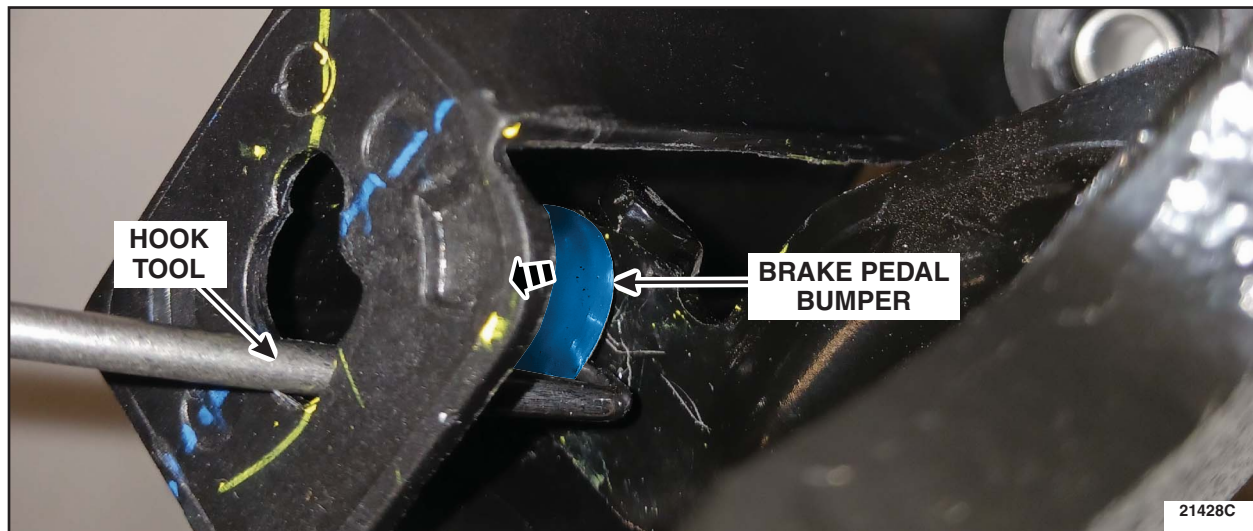

FIGURE 3
2. Insert a hook tool through the stoplamp switch opening and remove the brake pedal bumper. See Figure 3.